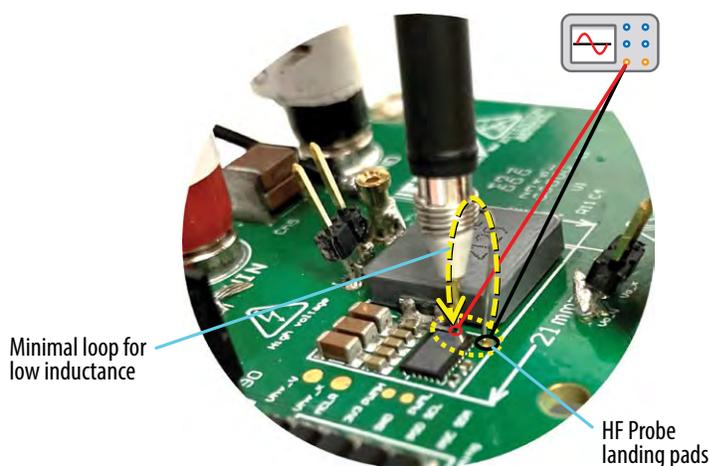

Figure 7: Recommended method to measure the switch-node measurement voltage waveform
- **SW-GND**: Switch-node voltage measurement (TP7 & TP9). See figure 7 for recommended method to measure the switch-node